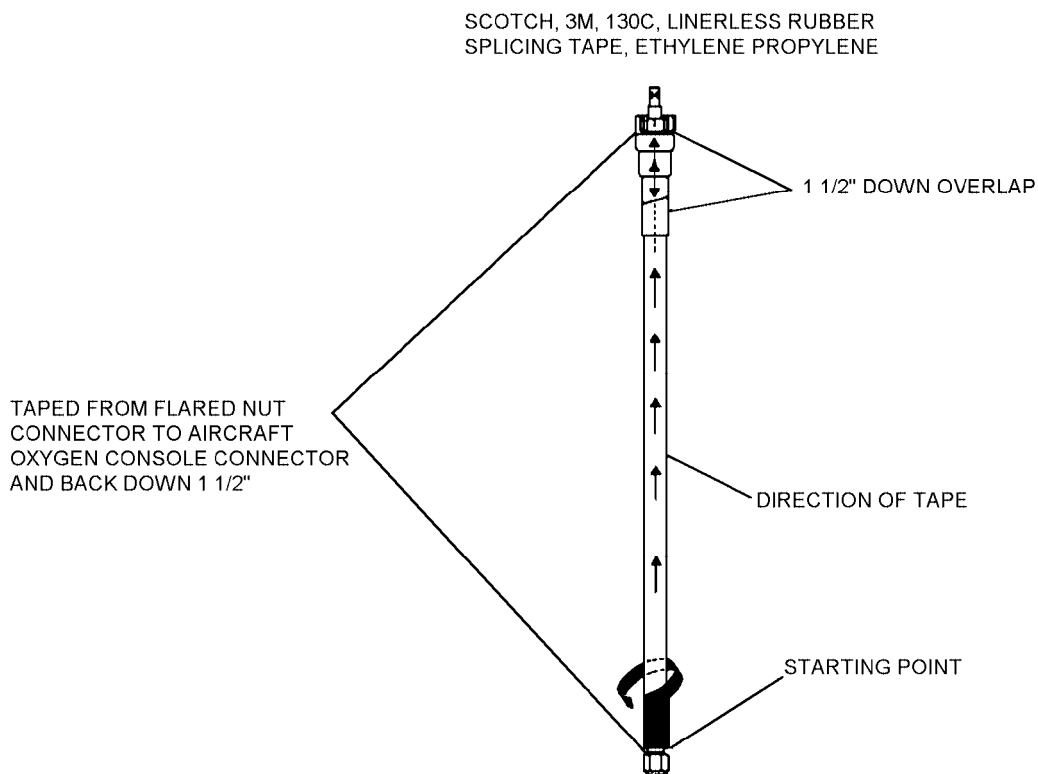

Figure 4-45. Seat Kit to Aircraft Console Hose Assembly Taping
- c. Work the tape up the hose to the console disconnect. End taping by wrapping up to console connector and back down over the applied tape 1-1/2 inches (figure 4-45 and 4-46).
c. Work tape up hose to console disconnect. End taping by wrapping up to console connector and back down over the applied tape 1-1/2 inches (figures 4-45 and 4-46).